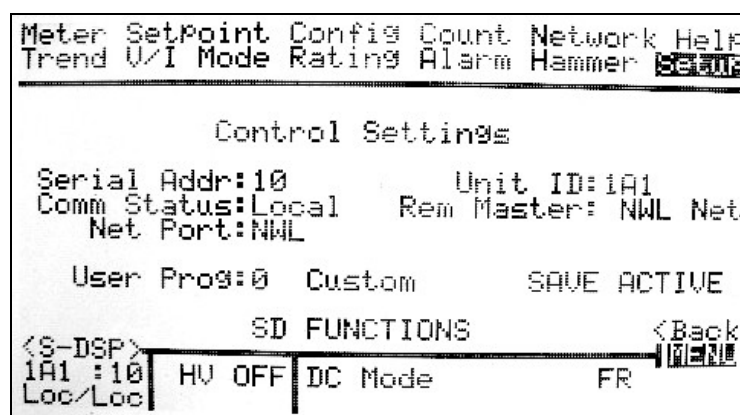

Figure 4-7
3. at the **Serial Addr** field (fig. 4-7), use the <+Incr> and <-Decr> keys to assign a port number between 10 and 99